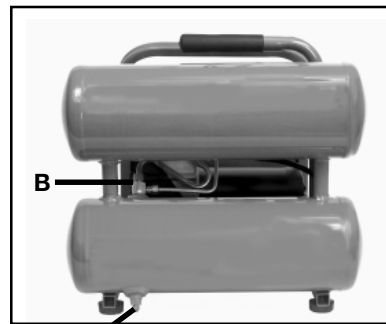

Figure 2
Check Valve (B) Fig. 2: When the air compressor is operating, the check valve is "open", allowing compressed air to enter the air tank. When the air compressor reaches "cut-out" pressure, the check valve "closes", allowing air pressure to remain inside the air tank.
Drain Valve (L) Fig. 2: The drain valve is located at the base of the lower air tank and is used to drain condensation at the end of each use.
11. Drain water from air tank. Turn drain valve (J) Fig. 2, counterclockwise, to open.